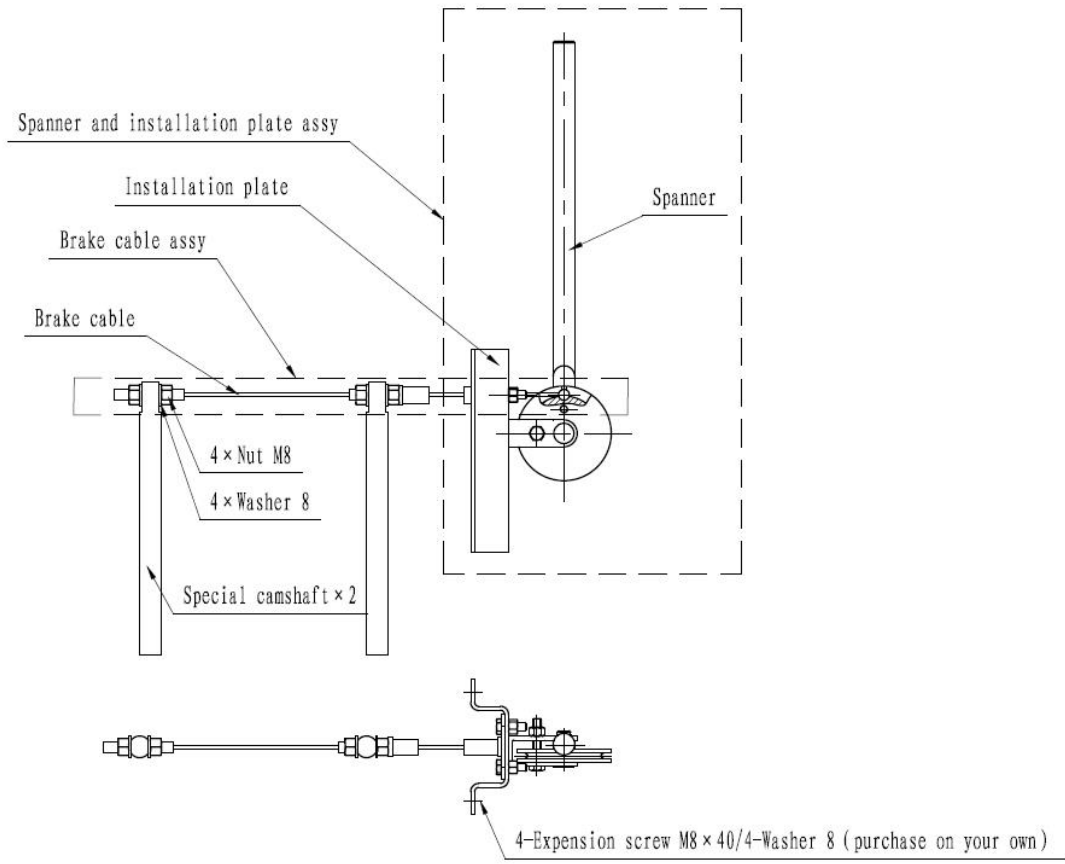

Figure 1.3
- 2) As figure 1.3, pass the other side of loose brake soft pipe through special camshaft(already installed on the brake), clamp these two spanner with four M8 nuts and washers 8;